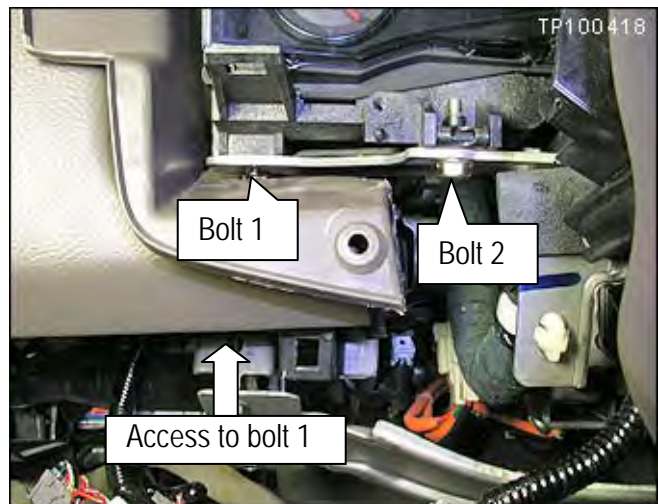

Figure 14
- b. On the lower left side of the meter assembly, remove the 2 bolts shown in Figure 14.